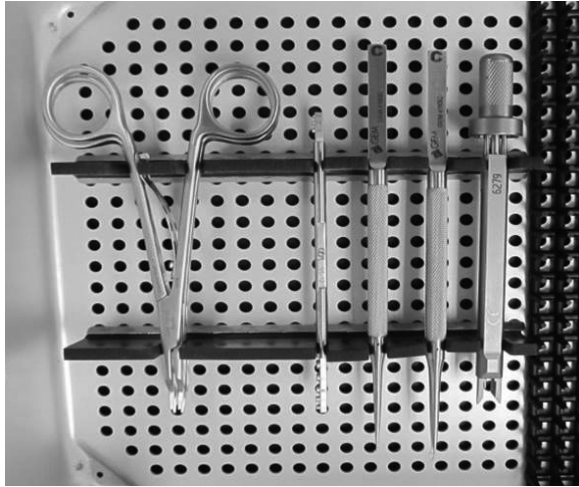

Figure 3
1. Load the base and insert tray (if included) with instruments. (See Figure 3)